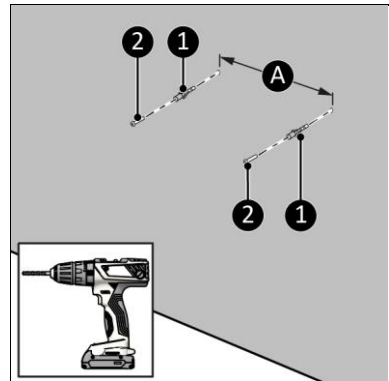

Figure 9
5. Drill two 8 mm holes 240 cm horizontally apart from each other at the required location (Figure 9, pos. A).
6. Insert the wall plugs into the holes (Figure 9, pos. 1).
7. Firmly screw the screws (Figure 9, pos. 2) into the wall plugs using a Philips screwdriver.